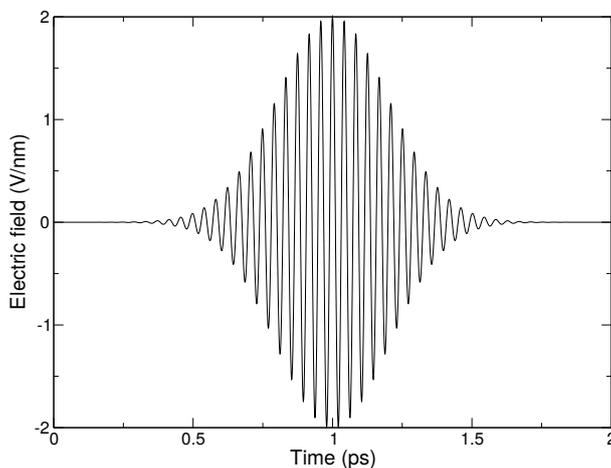

Fig. 5.45: A simulated laser pulse in GROMACS.
This simulated laser-pulse was applied to simulations of melting ice 146 (page 516). A pulsed electric field may look like Fig. 5.45. In the supporting information of that paper the impact of an applied electric field on a system under periodic boundary conditions is analyzed. It is described that the effective electric field under PBC is larger than the applied field, by a factor depending on the size of the box and the dielectric properties of molecules in the box. For a system with static dielectric properties this factor can be corrected for. But for a system where the dielectric varies over time, for example a membrane protein with a pore that opens and closes during the simulation, this way of applying an electric field is not useful. In such cases one can use the computational electrophysiology protocol described in the next section (sec. *Computational Electrophysiology* (page 459)).
yields an pulsed-oscillating electric field with $E_0 = 2$ V/nm, $\omega = 150/\text{ps}$ and $t_0 = 5$ ps and $\sigma = 1$ ps. Read more in ref. 146 (page 516). Note that the input file format is changed from the undocumented older version. A figure like Fig. 5.45 may be produced by passing the `-field` option to `gmx mdrun` (page 110).